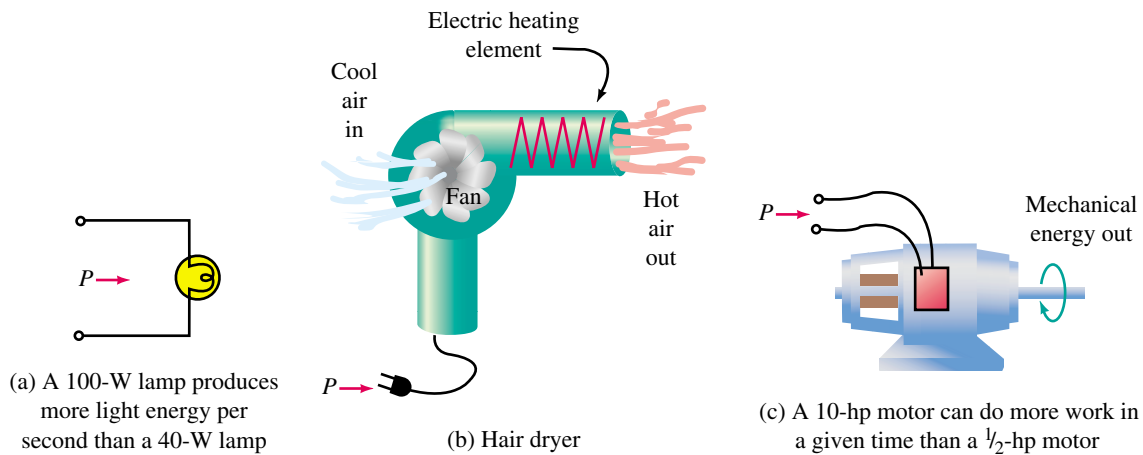

FIGURE 4–15 Energy conversion. Power P is a measure of the rate of energy conversion.
introduced at this point to help explain power flow in the electric car of upcoming Example 4–9. However, apart from the electric car example, we will leave its consideration and use to later chapters. That is, we will continue to use the representation of Figure 4–14(a).
Power is familiar to all of us, at least in a general sort of way. We know, for example, that electric heaters and light bulbs are rated in watts (W) and that motors are rated in horsepower (or watts), both being units of power as discussed in Chapter 1. We also know that the higher the watt rating of a device, the more energy we can get out of it per unit time. Figure 4–15 illustrates the idea. In (a), the greater the power rating of the light, the more light energy that it can produce per second. In (b), the greater the power rating of the heater, the more heat energy it can produce per second. In (c), the larger the power rating of the motor, the more mechanical work that it can do per second.